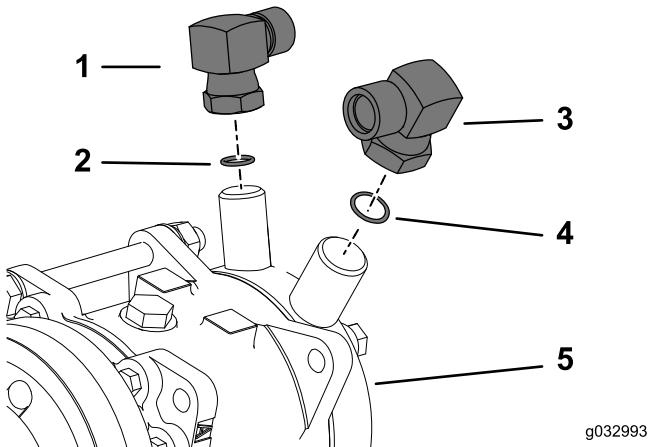

Figure 43
1. Install the right-angle fitting (7/8 inch) and O-ring (size 8) to the low-pressure or suction port on the air-conditioning pump (Figure 43).
3. Install the right-angle fitting (3/4 inch) and O-ring (size 10) to the high-pressure or discharge port on the air-conditioning pump (Figure 43).